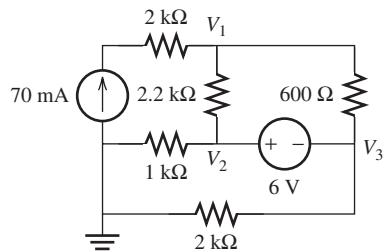

FIGURE P3.49 Circuit for Problem 3.49.
- 3.49 (H)*** Find V_1 , V_2 , and V_3 in Figure P3.49: